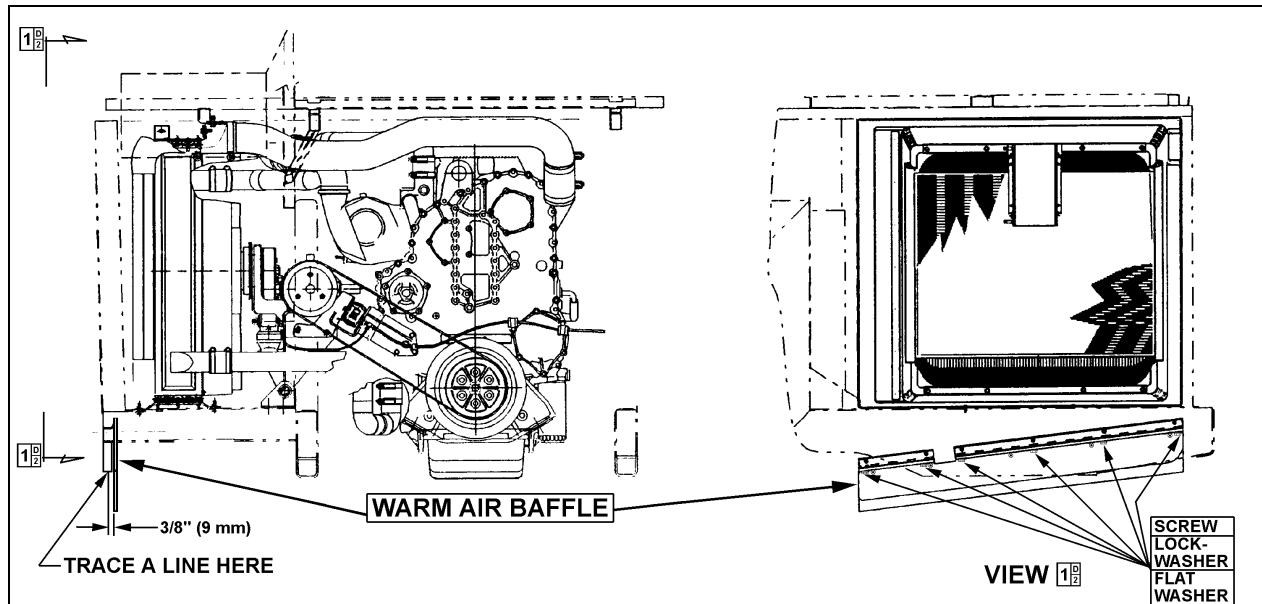

FIGURE 2 : H3 SERIES COACHES WARM AIR BAFFLE
2. Trace a line on the chassis 3/8 inch (9 mm) from baffle interior corner (refer to figure 2).
4. Secure warm air baffle using six screws, lock washers and flat washers (refer to figure 2).